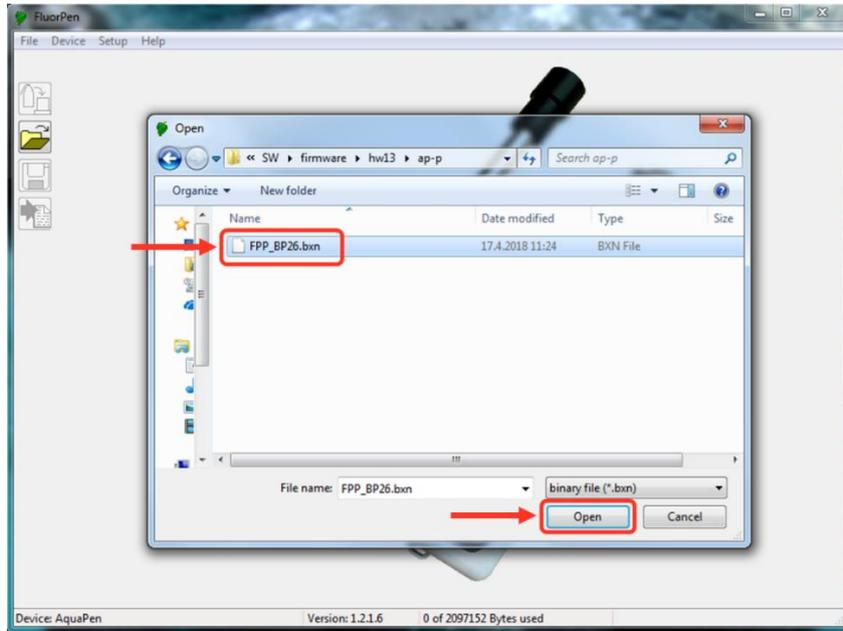

Fig. 26 Select .bxn file.
- Find firmware update file: Binary file (with the extension .bxn) (Fig. 26).